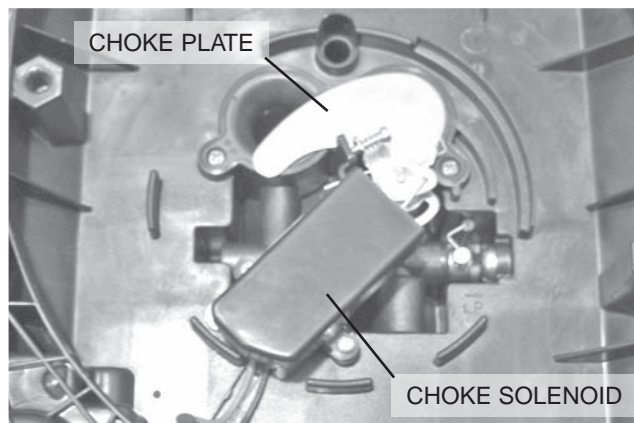
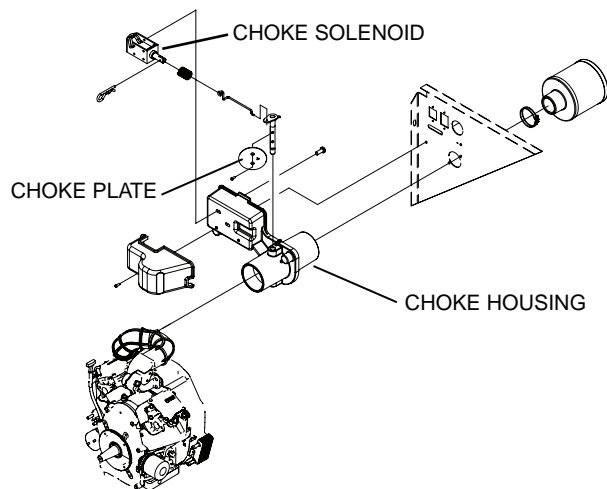

Figure 128. Solenoid De-Energized, Choke Closed 12-20kW Units
Figure 131. Exploded View Showing Location of Choke Plate - 10kW Units
10kW: Utilize a throttle plate located in the choke housing. The choke is open when the solenoid is de-energized and closed when it is energized. Refer to Figure 131 for assembly and location.
1. Refer to Figure 131 for the 10kW location and Figures 128 and 129 for the 12-20kW Choke location and operation. Turn off the fuel supply to the generator. Set the AUTO-OFF-MANUAL switch to the MANUAL position. While cranking, the choke solenoid should pull the choke plate open cyclically. The duration of the cycle will vary depending on its position in the crank cycle sequence. Refer to Table 22 for crank durations. If the choke solenoid does not pull in, verify that the choke can be manually opened. There should be no binding or interference.